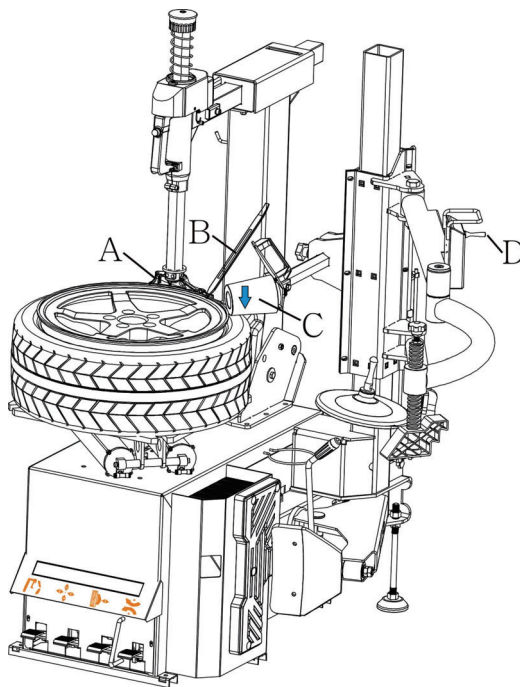

Fig.10
- Close mounting head A to upper bead. Pull out pressing arm C and Pressing roller is placed on the tire. Turn switch handle D downward, Insert lifting lever B into clearance between the rim and bead as Fig.10.